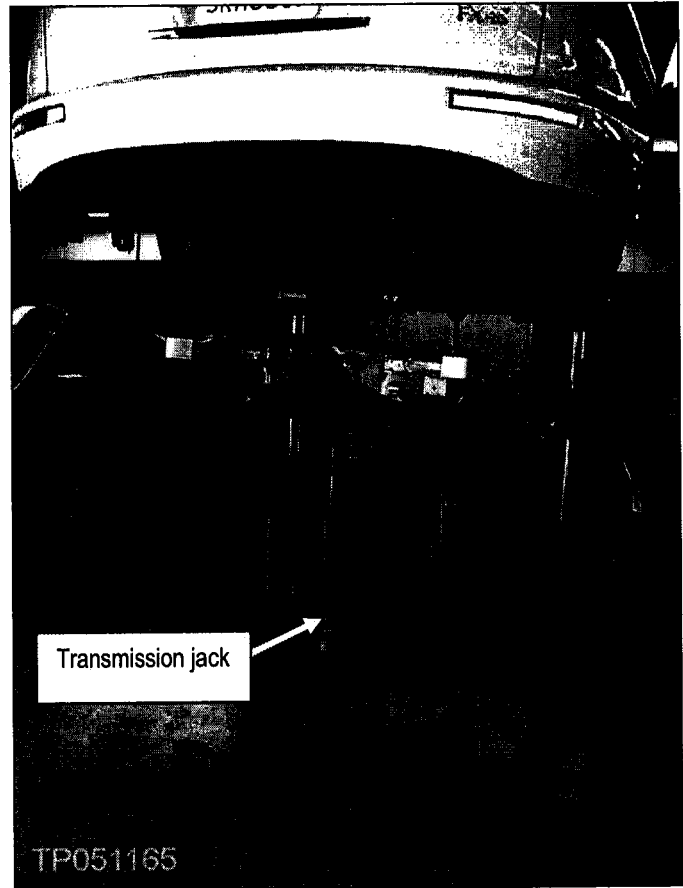

Figure 36
30. Carefully lower the suspension member (see Figure 36) and place it in a safe location away from "traffic".